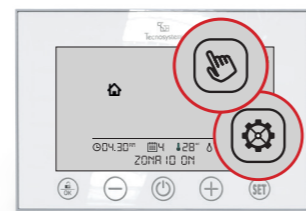

Fig.9
5.1 Press the key for 3 seconds checking that the symbol comes on and the symbol flashes . (Fig.9)